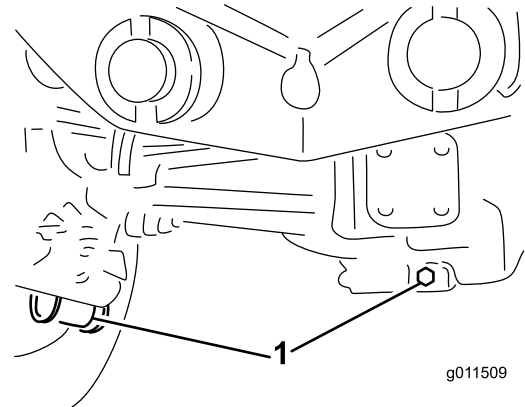

Figure 71
2. Clean the area around the 3 drain plugs; 1 on each end and 1 in the center (**Figure 71**).